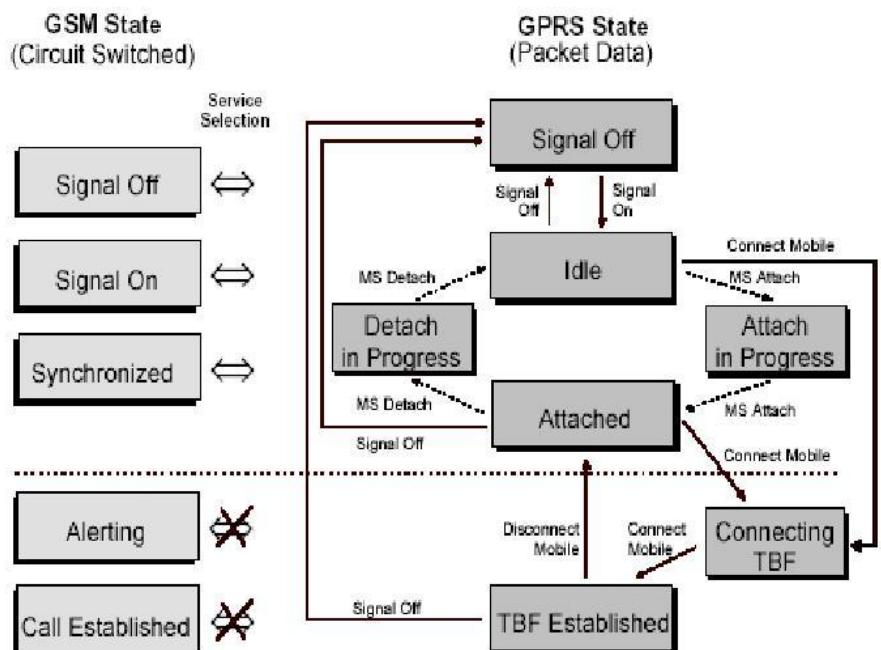

Fig. 9– (E)GPRS states in the CMU
Fig. 9 again shows the internal states in the CMU. GSM and (E)GPRS are identical up to the **Attached** and **Synchronized** state, i.e. a circuit-switched call is also possible in the **Attached** state.